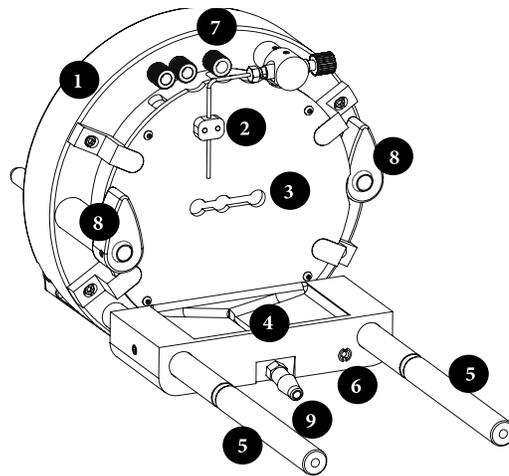

Figure 3.2 Interface ring
1. Locate the Digital PicoView interface ring (see Figure 3.2).
2. Be sure that the locking levers are open and pointing up (see Figure 3.2)
4. Lock the source ring to the instrument by rotating the locking levers (Figure 3.2) 180° so that they are pointing down. The source ring should now be firmly locked to the instrument panel.